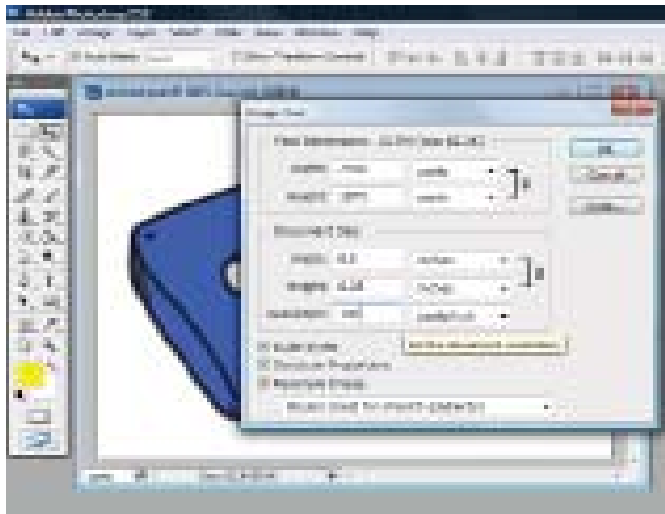

Figure 3 - Increase Resolution of Scanned Image
- a. Upconvert to image to 300 dpi (FIGURE 3). The image pixelation will smooth out, but the image will be blurry.